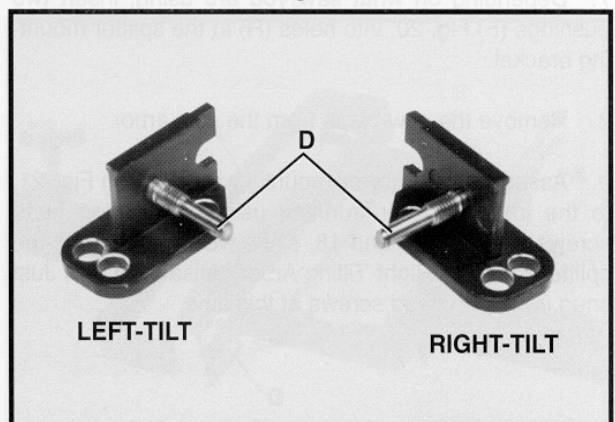
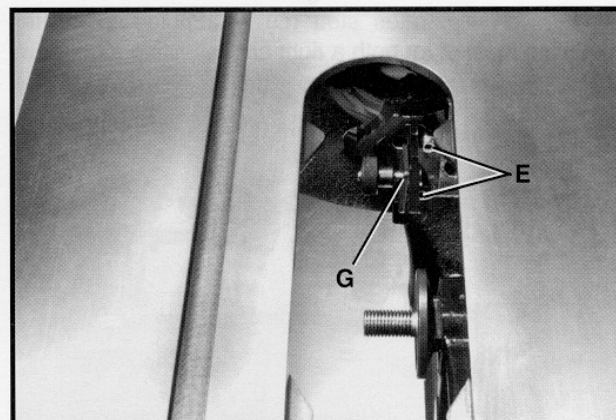
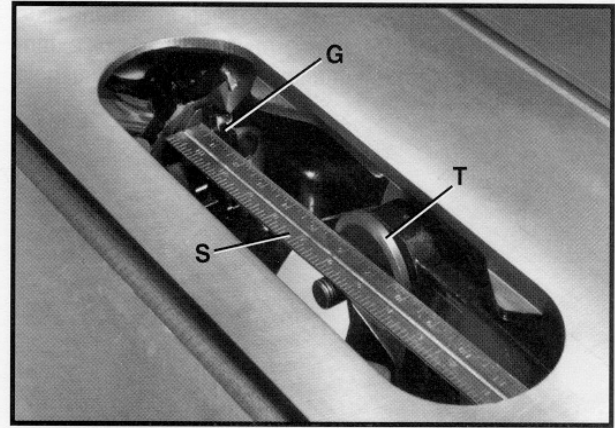

Fig. 17
Fig. 21
Fig. 22
4. Fig. 17, illustrates stud (D) assembled to splitter mounting bracket for both a right and left-tilting arbor saw.
9. Assemble the splitter mounting bracket (G) Fig. 21, to the inside of rear trunnion using two button head screws (E) Figs. 17 and 18, since we are mounting the splitter to a 10" Right Tilting Arbor Unisaw. **NOTE: Just snug up button head screws at this time.**
10. Using a straight edge (S) Fig. 22, align the top portion of splitter mounting bracket (G) to saw arbor (T) as shown. Then tighten two screws (E) Fig. 21.